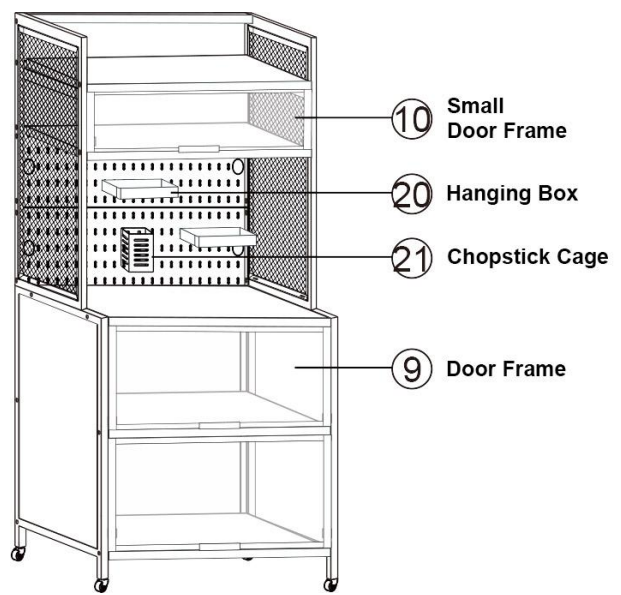

Figure 6
Step6: Press the buckles on both sides of the door frame, snap the large and small frames into the left and right brackets, and then hang the hanging box and chopstick cage on the shelf, as shown in Figure 6.